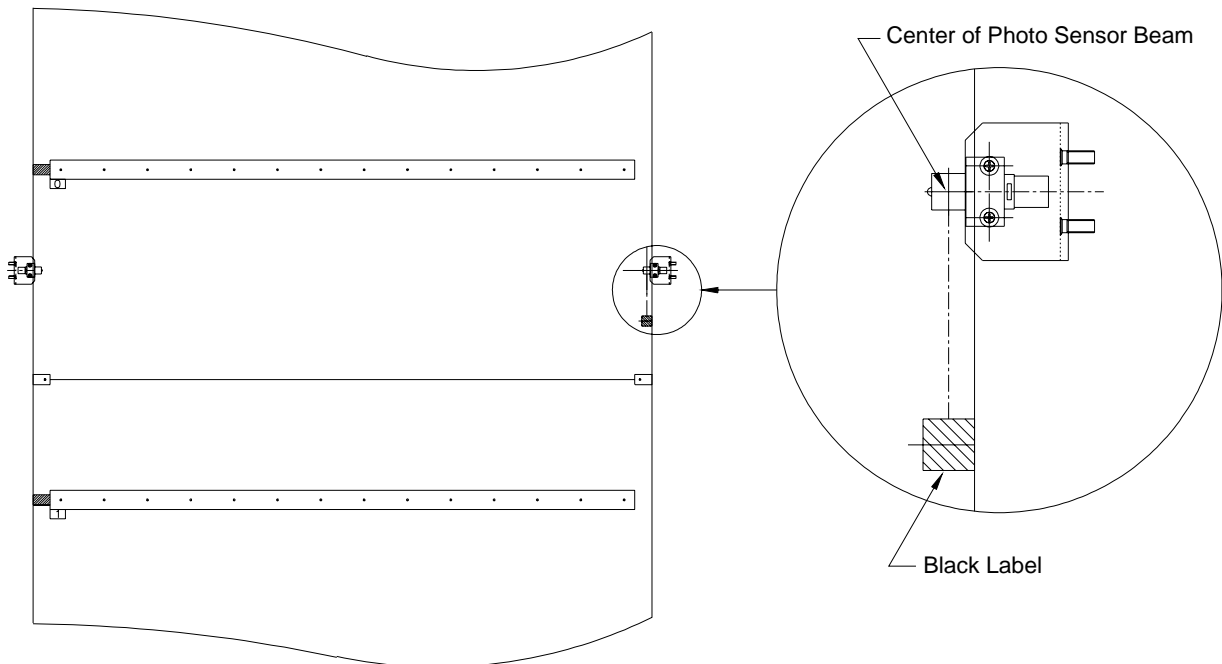

Figure 7-9-a. Alignment of Photo Sensors
It is important that the band with its labels is correctly aligned with the beam of the photo sensor. This is shown in Figure 7-9-a. To check this, proceed as follows:
- Stop at several places and confirm that the center of the photo sensor beam is aligned with the center of the black label as shown in Figure 7-9-a.